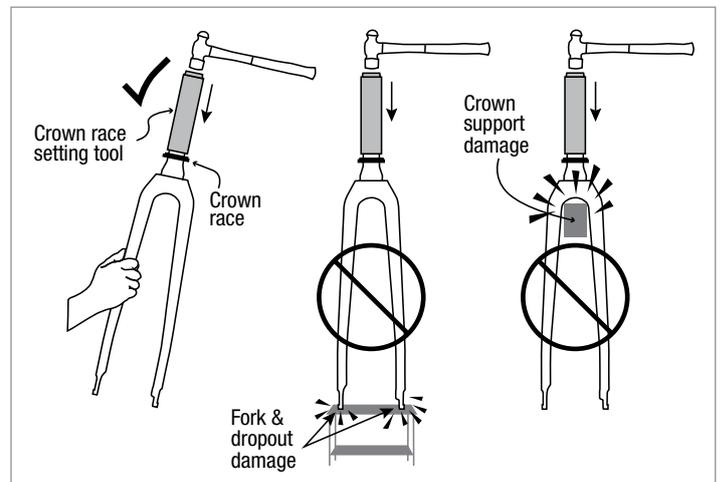

Figure 2
**▲ WARNING:** Do not place the fork on the dropout tips or support the fork in the crown area while installing the crown race. Doing so can damage the fork (Fig. 2).